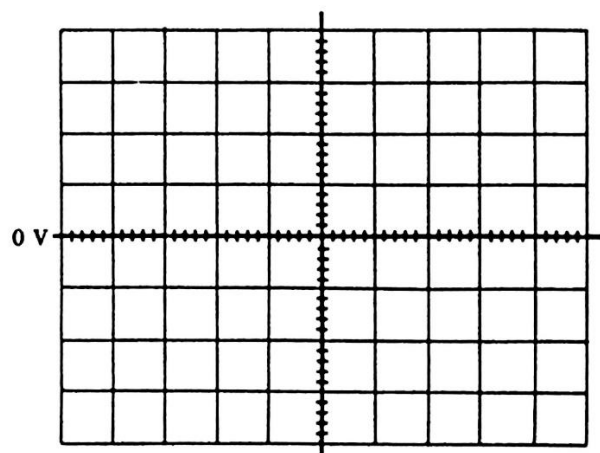

Figure 3.4b
12. Sketch the displayed voltage transfer characteristics of your circuit on Fig. 3.4b